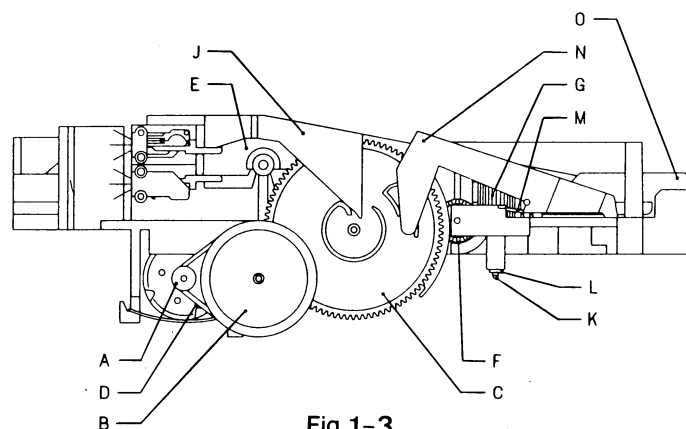
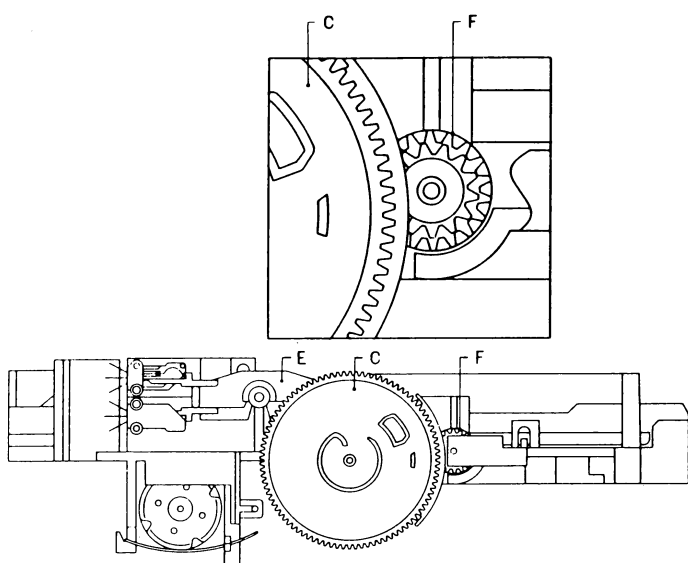

Fig.1-3
Fig.1-4
- Ensure that the aperture in gearwheel F is vertical (see Fig.1-3) and apply cog wheel C in the way described in Fig.1-4.
Use 7th order filter 4822 395 30204 (see Fig.1-4) to measure: